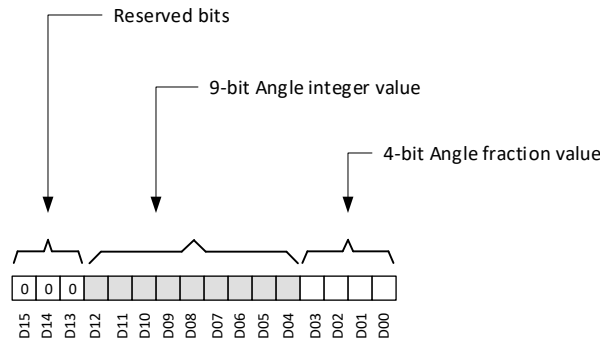

Figure 8-8. Angle Data Definition
The TMAG5170D-Q1 calculates the angle based off the ANGLE\_EN register bit settings. Figure 8-8 shows that the ANGLE\_RESULT register stores the angle information in the 13-LSB bits. Bits D04-D12 store angle integer value from 0 to 360 degree. Bits D00-D03 store fractional angle value. The 3-MSB bits are always populated as b000. The TMAG5170D-Q1 CORDIC offers angle resolution of ¼ degree. Less than ¼ degree angle resolution can be implemented by performing a CORDIC angle calculation on the system microcontroller using the X, Y, and Z axis readings from the TMAG5170. The TMAG170 code example software package has functions that can be ported to the system microcontroller for an accurate but computationally inexpensive angle calculation using the TMAG5170D-Q1 axes readings. Use Equation 7 to calculate the angle.
- $D_i$  is the data bit as shown in Figure 8-8.